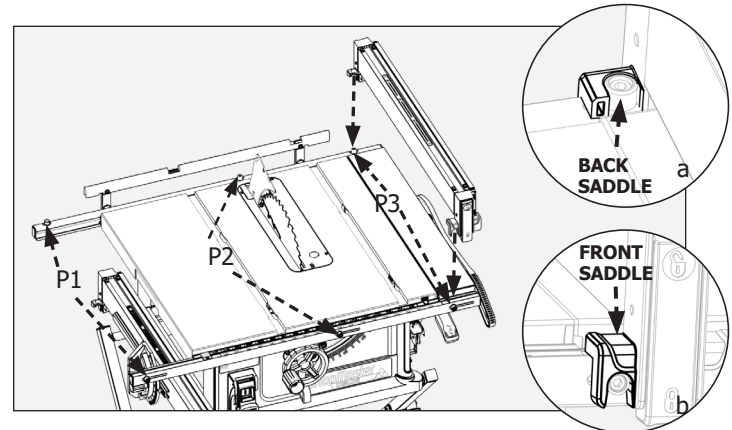

FIGURE 17
This saw is equipped with a three-position fence alignment system to allow for quick and accurate cuts. Depending on which type of cut is required use each of the three positions as listed below (FIGURE 17).
3. Engage the fence lock located at the front of the fence (FIGURE 17).